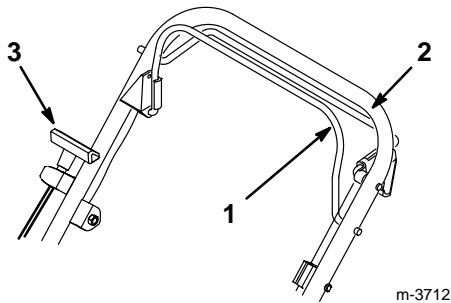

Figure 9
2. Hold the blade control bail against the upper handle (Fig. 9).
3. Pull the starter handle lightly until resistance is felt, then pull it sharply (Fig. 9). Allow the rope return to the handle slowly.